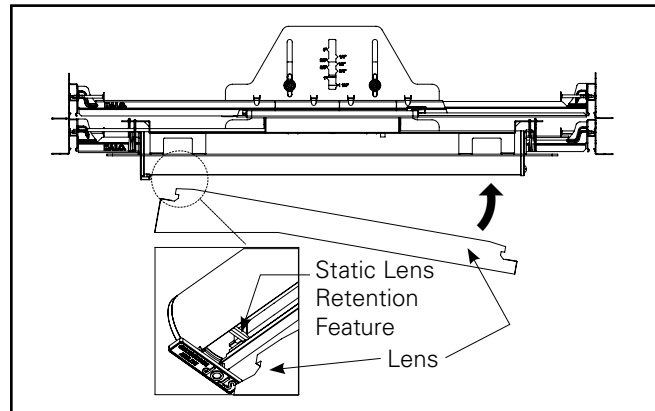

Figure 2.
- Use the attached Chevron guides to install chevrons as desired. Install the lens into the housing. Orient the lens facing the appropriate direction and insert the corner of lens into the housing starting on the Lens Insertion End. This can be identified by the yellow sticker or Red EZ-Key (SD Versions) at the end of the unit as well as by the text on the LED PCBA that reads "Install Lens This End" Tilt the other end of the lens upwards until the assembly snaps securely into place (See Figure 2).